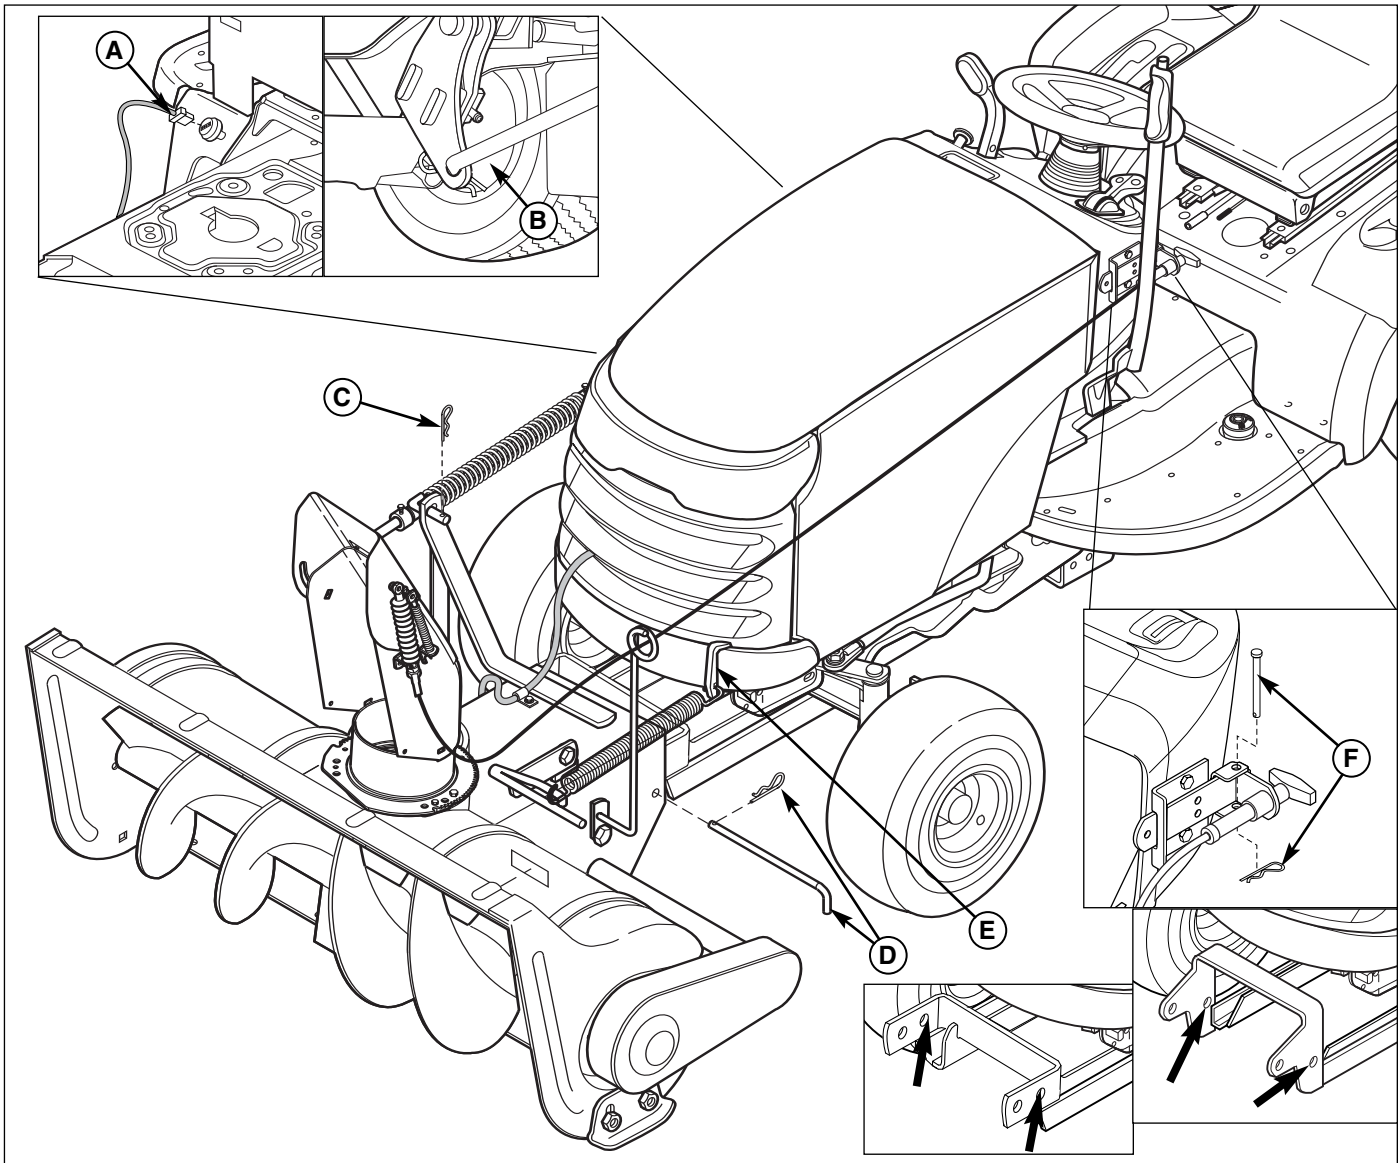

Figure 25. Dozer Removal
2. Release the lift assist spring. Remove the spring and spring bracket (E, Figure 25) from the tractor.
4. Remove the clevis pin and clip (F) from the remote deflector control and disconnect the control from the mounting bracket.
5. Disconnect the rotator motor plug (A).
6. Disconnect the rear of the lift rod (B) from the lift arm extension. Remove the hair pin clip (C) from the front of the lift rod. Remove the lift rod. Remove the lift arm extension from the tractor (see Hitch Installation Instructions).
- Remove the hitch pin and clip (D, Figure 25) from the snowthrower and remove the snowthrower. Reinstall all pins and clips to prevent loss.
- Place the snowthrower in front of the tractor and secure to the hitch using the hitch pin and clip (D, Figure 25).
- Connect the rear of the lift rod (B, Figure 25) to the lift arm extension. Use a hair pin clip (C) to secure the front of the lift rod to the snowthrower.
- Connect the rotator motor plug (A). Route the harness through the bottom grille grate and along the frame rail as shown.
- Install the remote chute deflector control to the mounting plate and secure with a clevis pin and clip (F).
- Fully raise and support the snowthrower with wood blocks. Install the lift assist spring and bracket (E).